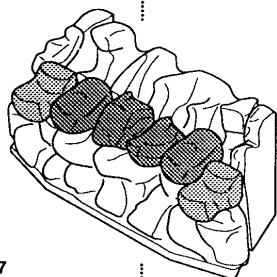

Fig. 27
2. Take 4 coals and place as shown in Fig. 27 bridging the front coal moulding and the rear coal moulding, ensure and flat faces on these coals face downward. Care should be taken as not to allow any coals to drop down between the front and rear coal mouldings (Fig. 27).